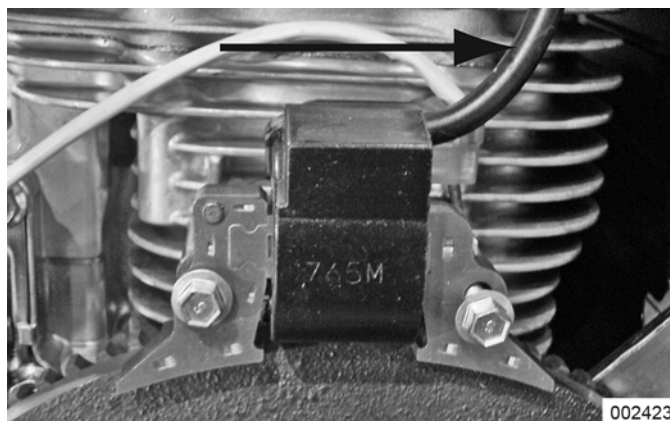

Figure 4-88. Cylinder One (Back, Short)
3. See **Figure 4-88**. Cylinder one is the back cylinder.